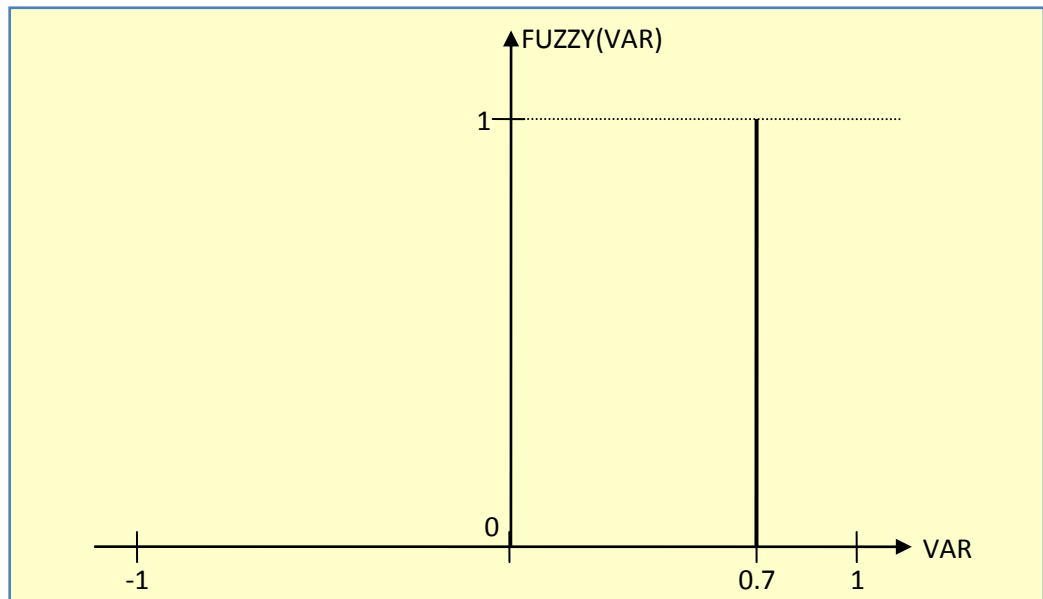

Fig. 49: Fuzzy singleton creation using FUZZY(VAR)
**FUZZY (0.7)** will create a Singleton at position 0.7 as shown in Fig. 49.